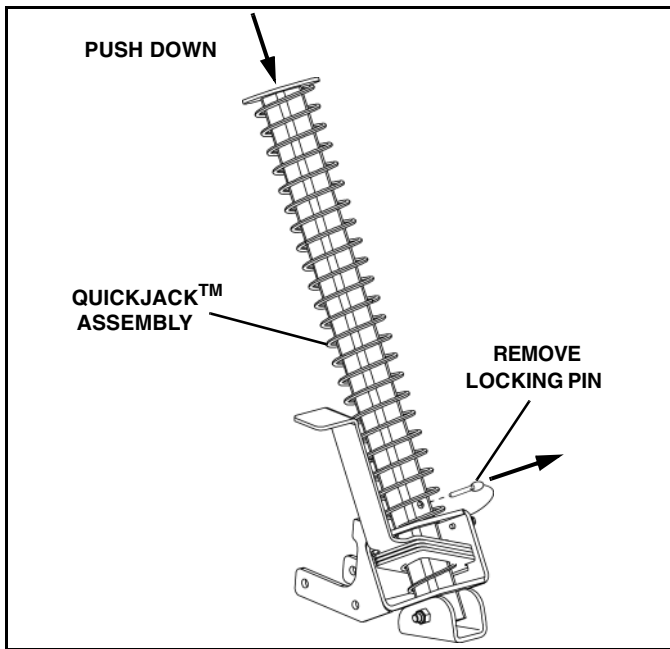

Figure 1-8
9. Remove the QuickJack™ locking pin. Raise the rear of the plow assembly and push the center tube down to fully lower the jackstand. (See Figure 1-8).